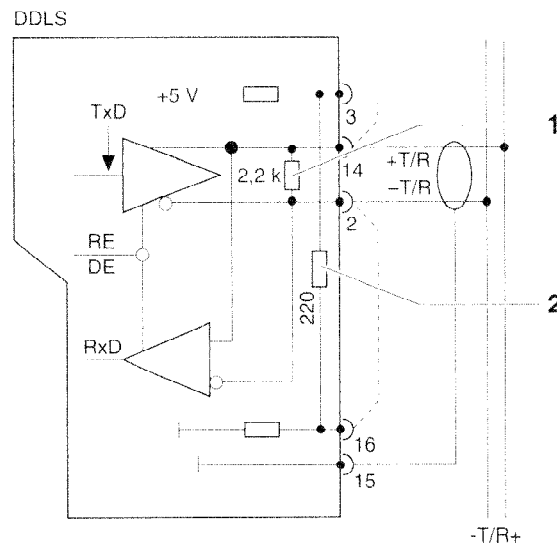

Fig. 35 Terminating resistor
Output resistance (1) of the RS 485 interface module: 2.2 kΩ (see Fig. 35).
With the jumpers, at the same time insert a terminating resistor (2) of 220 Ω into the bus line (see Fig. 35).